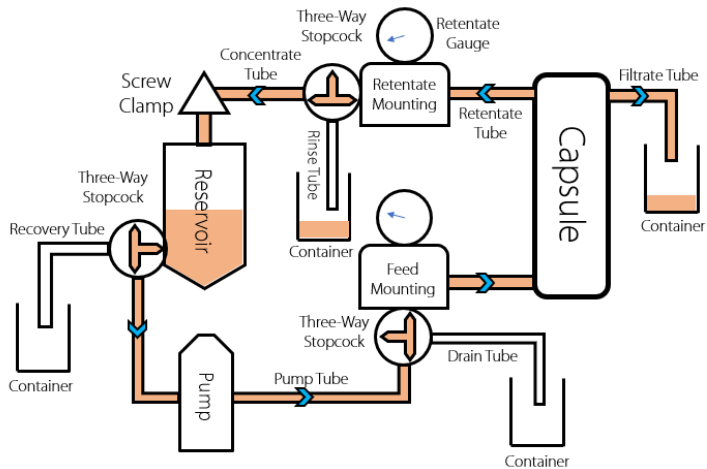

Figure 9
- Set the three-way stopcocks and adjust the flow path as shown in figure 9.